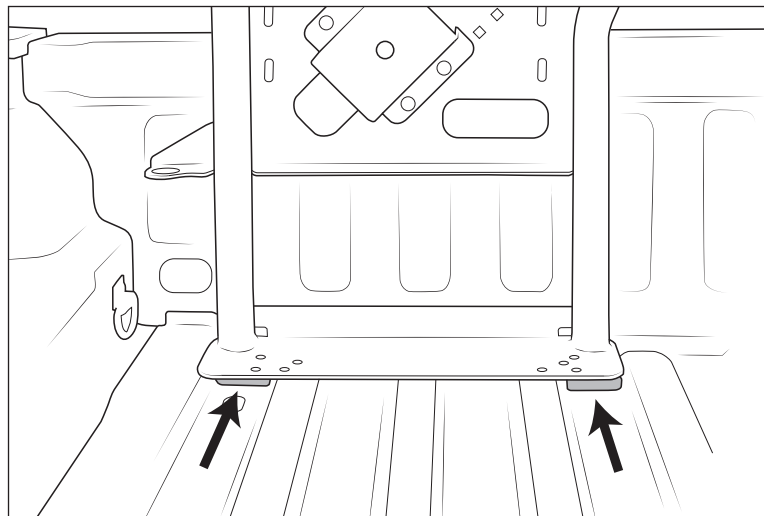

Figure 10
6. Place the two provided Spacers under the Tire Carrier as shown (fig. 10). Adjust the Tire Carrier position side to side to align with spacer holes. Check that the Bulkhead Bracket is aligned with the Tire Carrier and adjust as necessary. NOTE: The Spacers should be pushed all the way forward, this will locate the Tire Carrier position front to back.